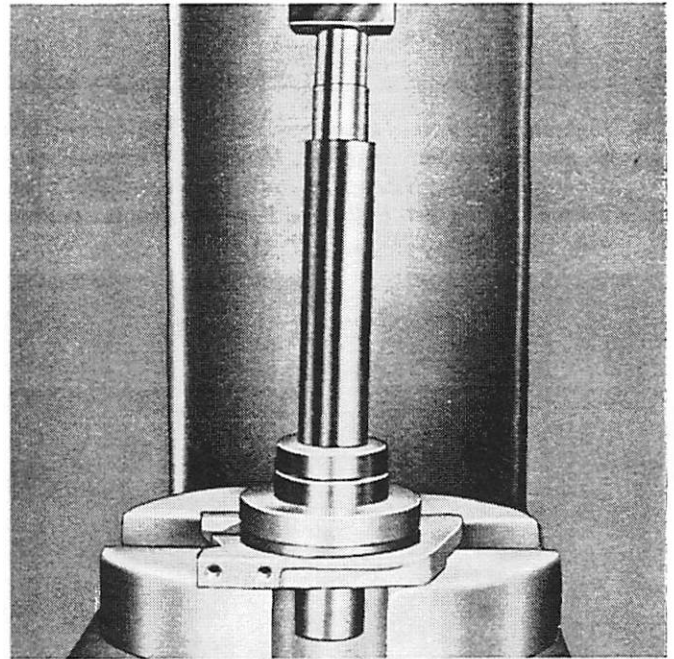

Figure 14. Installing Bearing in Crankcase Bottom
2. Install shims, as required, and press ball bearing and oil seal in with Arbor Press and Bearing Mandrel (91-25045), long, thin end with ball bearing adaptor ring. (Figure 14) Use narrow end with collar to press oil seal in place. Press seal and bearing until seated.